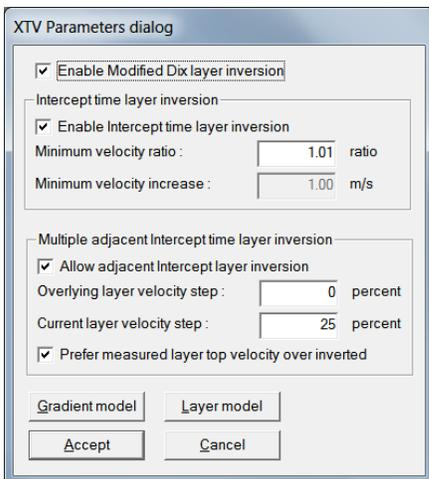

Fig 14 : edit *XTV* parameters. Click button *Layer model* and button *Accept*.
- select **DeltatV|XTV parameters**. Click buttons *Layer model & Accept*. See Fig. 14.